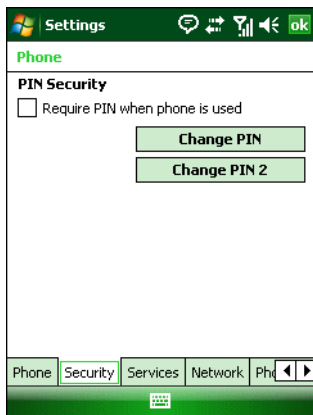

Figure 5-8 Security Tab
1. From the **Security** tab (Figure 5-8), select the **Require PIN when phone is used** check box under **Security**.
1. From the **Security** tab (Figure 5-8), tap **Change PIN**.
1. From the **Security** tab (Figure 5-8), deselect the **Require PIN when phone is used** check box.